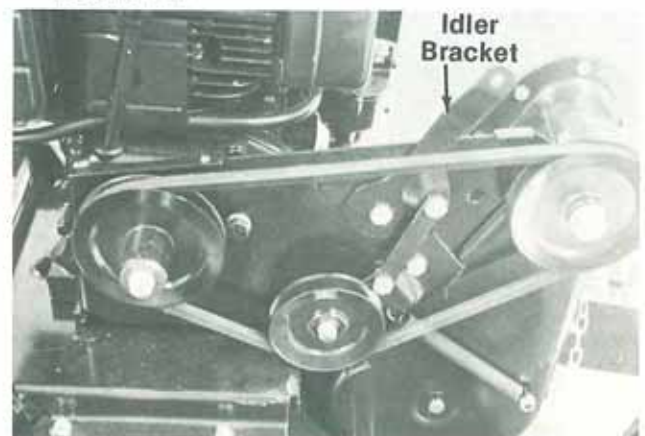

FIGURE 23.
4. Move the idler bracket forward (disengaged position) to remove the belt tension. Lift the belt off the engine pulley and chain case pulley. See figures 23 and 24.